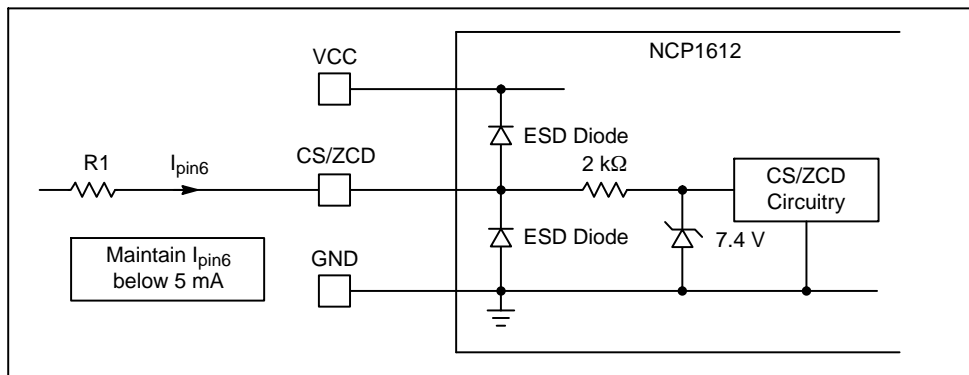

Figure 2.
4. Maximum CS/ZCD current that can be injected into pin6 (see Figure 2).